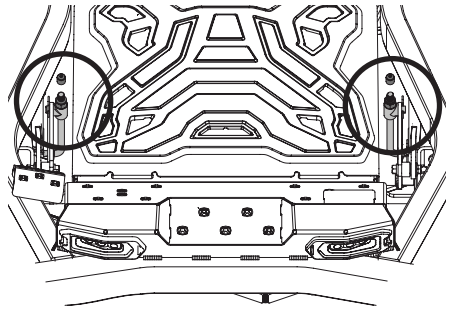

Figure 44
- a. Remove the end cap on both front deck height adjust rods and save for later re-installation (Figure 44).
- b. Rotate both front nuts clockwise to raise the front deck pitch or counter-clockwise to lower the front deck pitch, depending on the needed adjustment. Adjust each nut equally (Figure 44).